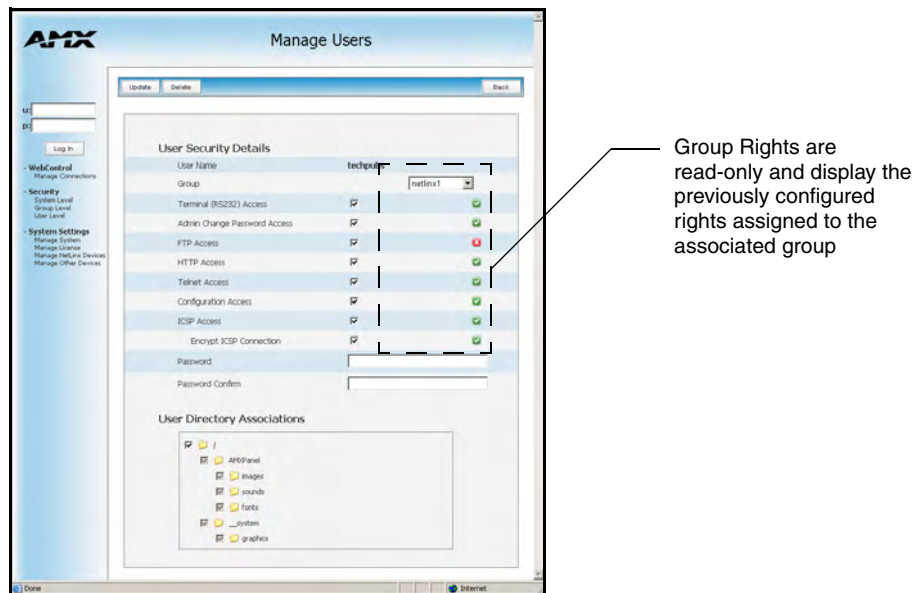

FIG. 46 User Level Security - Modifying a User's Security rights
2. Click the **Select** button next to the selected User's name to open the Configure User Properties page for the particular user (FIG. 46).
- From within the User Security Details section, modify any previously configured access rights by either placing or removing a checkmark from within any of the available checkboxes (FIG. 46).